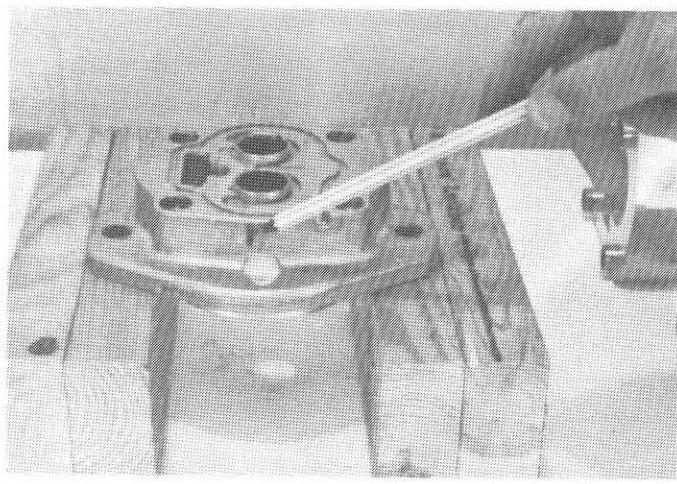

FIG. 18
27. Examine flange plate (1) and make sure shaft seal (6) and snap ring (7) have been properly installed. With the o-ring groove facing up and the matching mark you made in step 2 facing toward you, place the flange on the blocks with the seal centered between them. (Fig. 18)